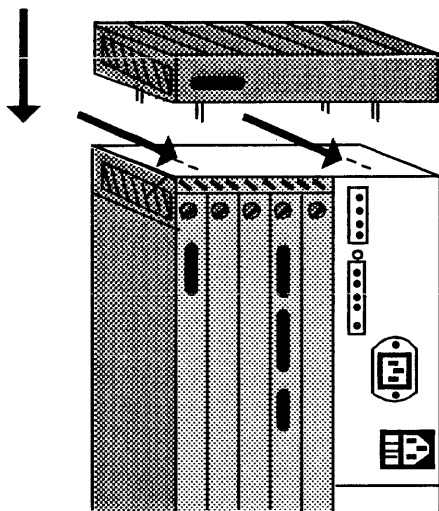

Figure 20. Placing the Optional Drive on the Processor Unit
- a. Align the four clips on the bottom of the drive to the four corresponding slots on top of the processor unit (Figure 20).